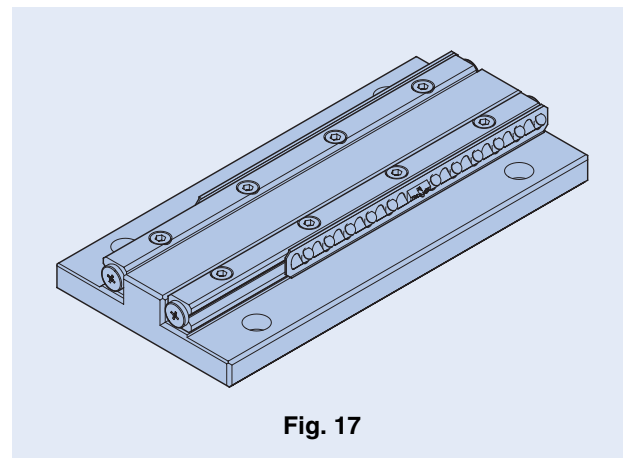

Fig. 17
- Place both of cylindrical rollers with retainer in bed-side at the end of stroke. (See Fig. 17)